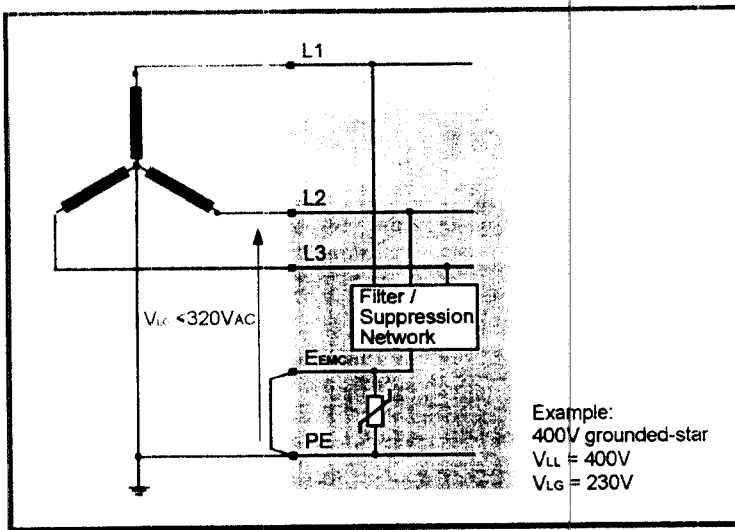

Figure 3 Drive connected to a grounded-star AC supply
If the line-to-ground voltage is less than 320VAC for example in a grounded star (Y) configuration (Figure 3), the varistor between E_{emc} and PE may be removed and replaced by a jumper. This brings into circuit the integral RFI filter. It is recommended that the filter is used in most applications because it provides an effective reduction in RFI emissions into the AC power supply.